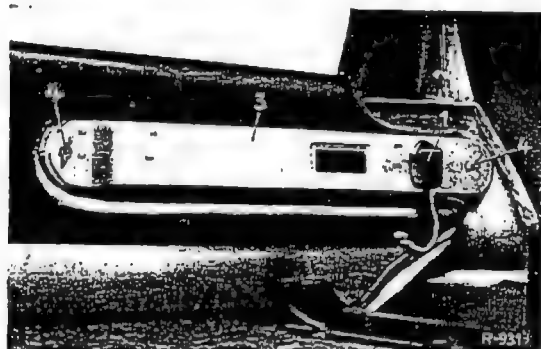

Fig. 82-13/1a
2. Screw out the fixing nuts (4) and remove the lamp housing together with the sealing frame (Figs. 82-13/1a and 82-13/1b).